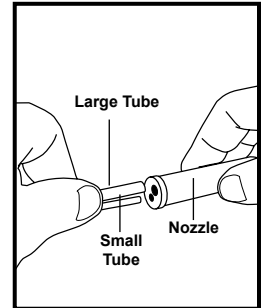

Figure 7
- Connect the proper size tubing to the flat end of the nozzle. Push tubing firmly into the nozzle (fig. 7).